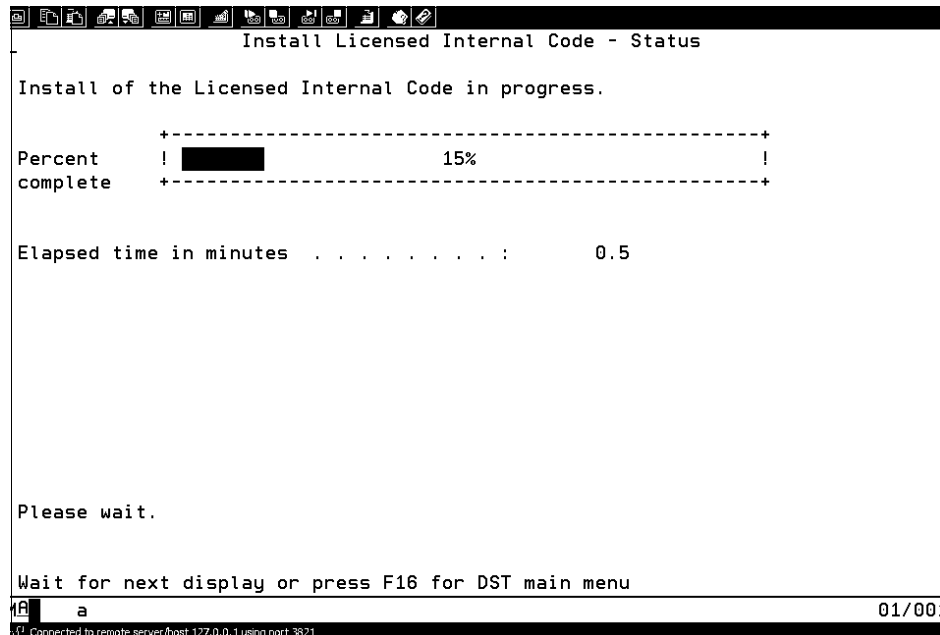

Figure 7-56 Install LIC status
10. Next, the Install Licensed Internal Code status display appears on the console as shown in Figure 7-56 on page 301. It will remain on the console for approximately 30 minutes.